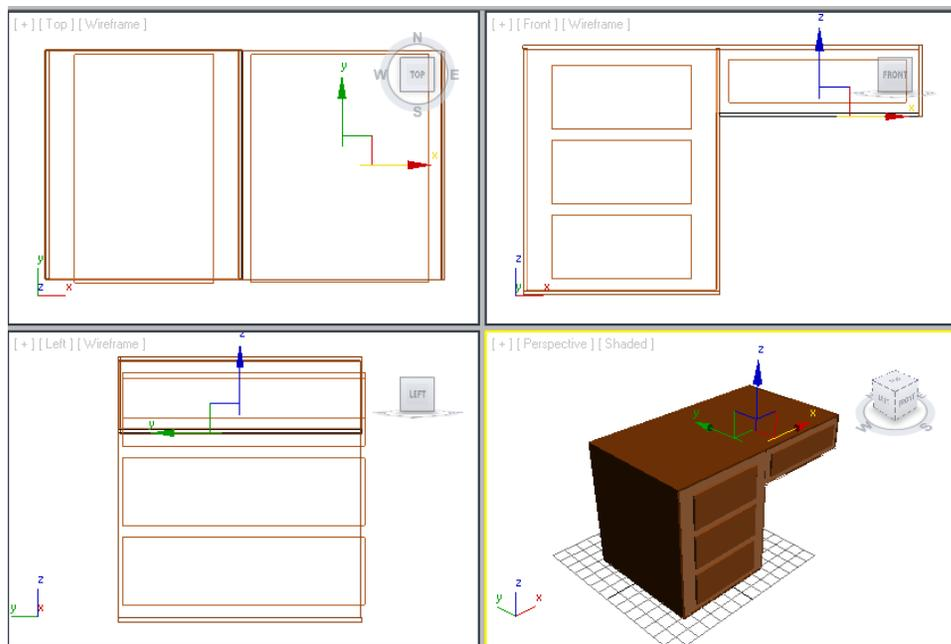

Figure 2-51 Alignment of right lower face to the bottom of right box of the table
13. Align *right lower face* to the bottom of *right box*, as shown in Figure 2-51.